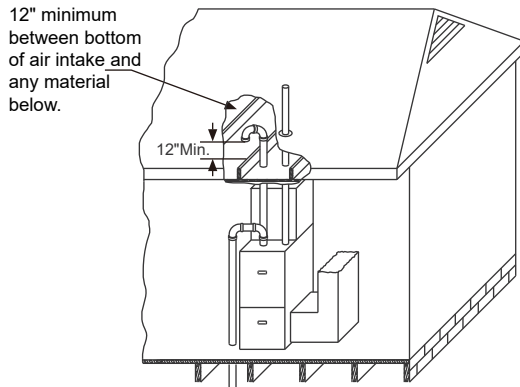

Fig 7-11 Attic and Crawl Space Combustion Air Termination
3. **VENTILATED COMBUSTION AIR:** Combustion air is supplied through a PVC or ABS pipe that is connected to the PVC coupling attached to the burner box and is terminated in a ventilated attic or crawl space. The combustion air and the vent pipes are not terminated in the same atmospheric zone. Refer to Figure 7-11 for attic and crawl space termination. Only the combustion air intake may terminate in the attic. The vent must terminate outside.